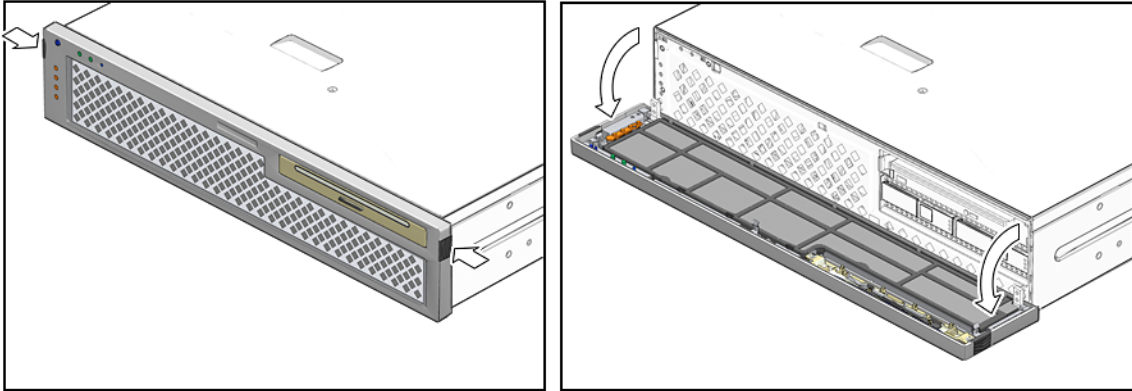

FIGURE 3-1 Opening the Bezel
1. Press the green tabs on either side of the bezel and pull forward and down (FIGURE 3-1).